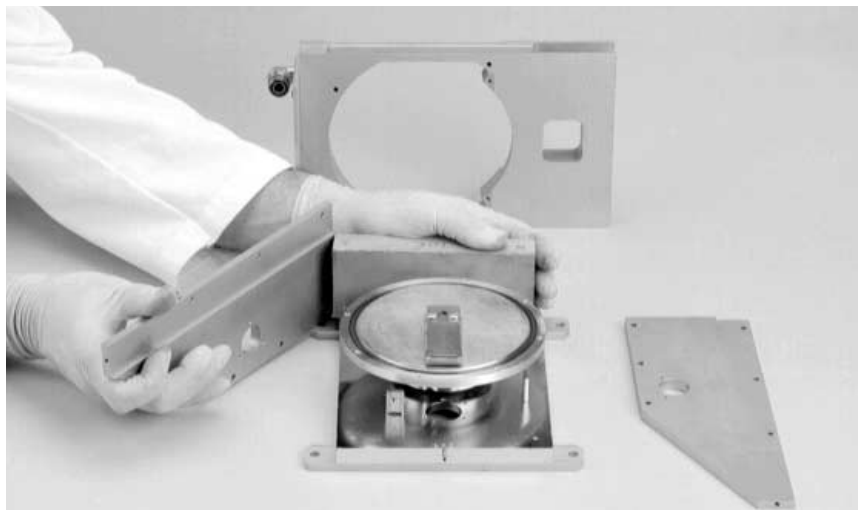

Figure 6-11. Correct technique for detaching pole pieces from magnet and base plate
Step 15: Remove the pole pieces from the remainder of the source. To do so, grasp the permanent magnet with one hand and the angled front end of the pole piece with the other, as shown in Figure 6-11. Then swing the front of the pole piece away from the source and carefully separate it from the rear edge of the magnet, rocking it slowly up and down if necessary to break it free from the magnet's very strong field.